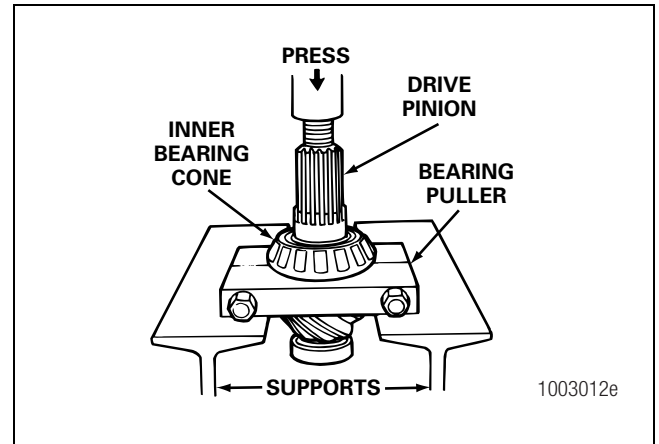

Figure 3.30
6. If the pinion bearings need to be replaced, remove the inner bearing cone from the drive pinion with a press or bearing puller. The puller must fit under the inner race of the cone to remove the cone correctly without damage. Figure 3.30.